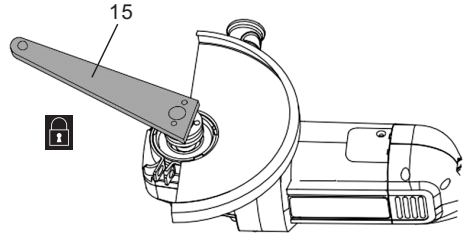

Fig. 12
2. Keep the spindle lock button (1) pressed and loosen the locking flange (10) anticlockwise with spanner (15) (Fig. 12).